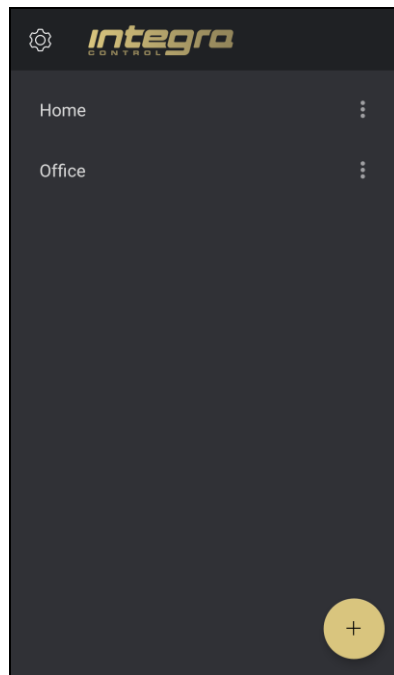

Fig. 7. INTEGRA CONTROL application. List of added control panels.
7. A newly added control panel will appear on the “Objects” screen (Fig. 7).